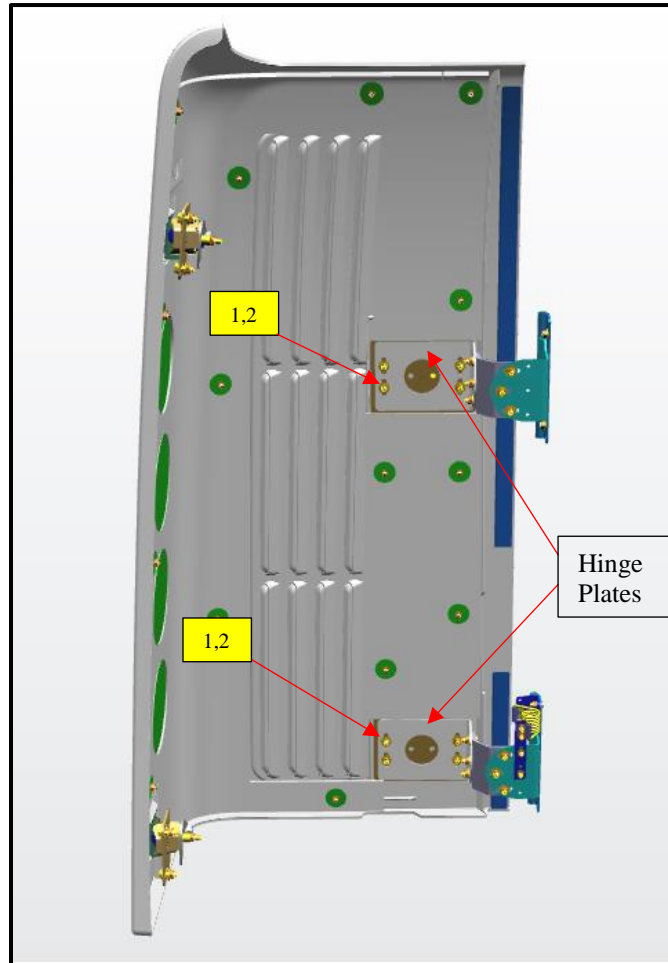

Figure 6: Installation of Corner Pillar Access Door Hardware Location Reference.
12) Re-install corner pillar access door (Illustration is for reference only) See figure 6.
- 14) Open and close the door gently to ensure it is aligned correctly with no binding and functions as it should, adjust as needed then tighten hardware #2 (NF PN: 261556) See figure 6.